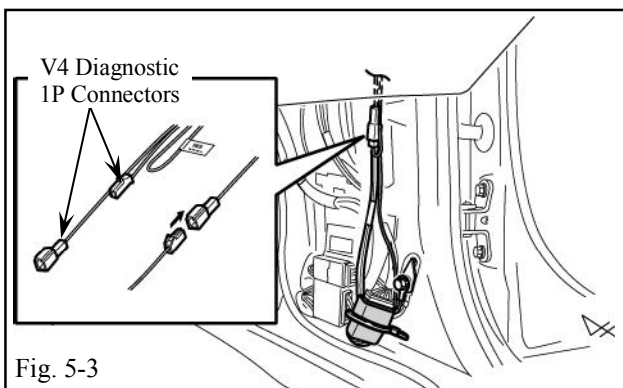

Fig. 5-3
- (c) Locate the RES Harness's 1P RES Diagnostic Connectors in the Passenger Side Cowl Area, and remove tape. (Fig. 5-3)
- (d) Connect the 2 RES Diagnostic Connectors. (Fig. 5-3)